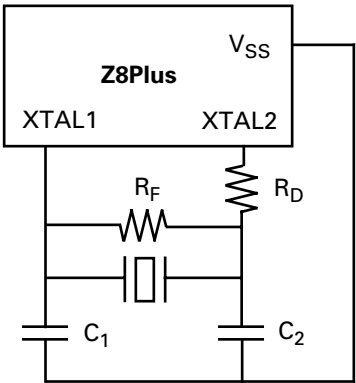
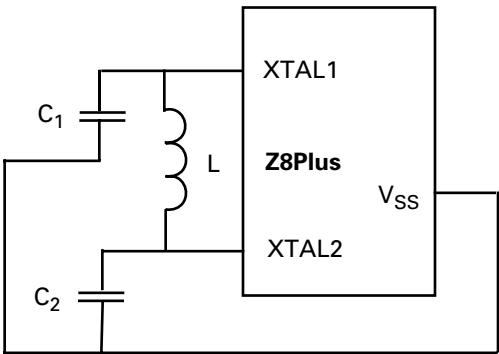
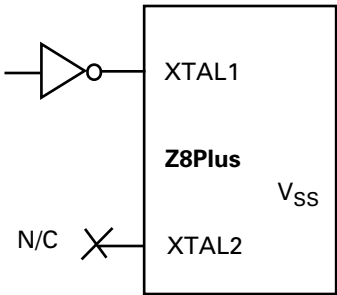

Figure 16. Crystal/Ceramic Resonator Oscillator
Figure 17. LC Clock
Figure 18. External Clock
Figure 16, Figure 17, and Figure 18 recommend that the load capacitor ground trace connect directly to the V_{SS} (GND) pin of the Z8Plus. This requirement assures that no system noise is injected into the Z8Plus clock. This trace should not be shared with any other components except at the V_{SS} pin of the Z8Plus.
The Z8Plus oscillator can use an inductor capacitor oscil-lator (LC) network to generate an XTAL clock (Figure 17).